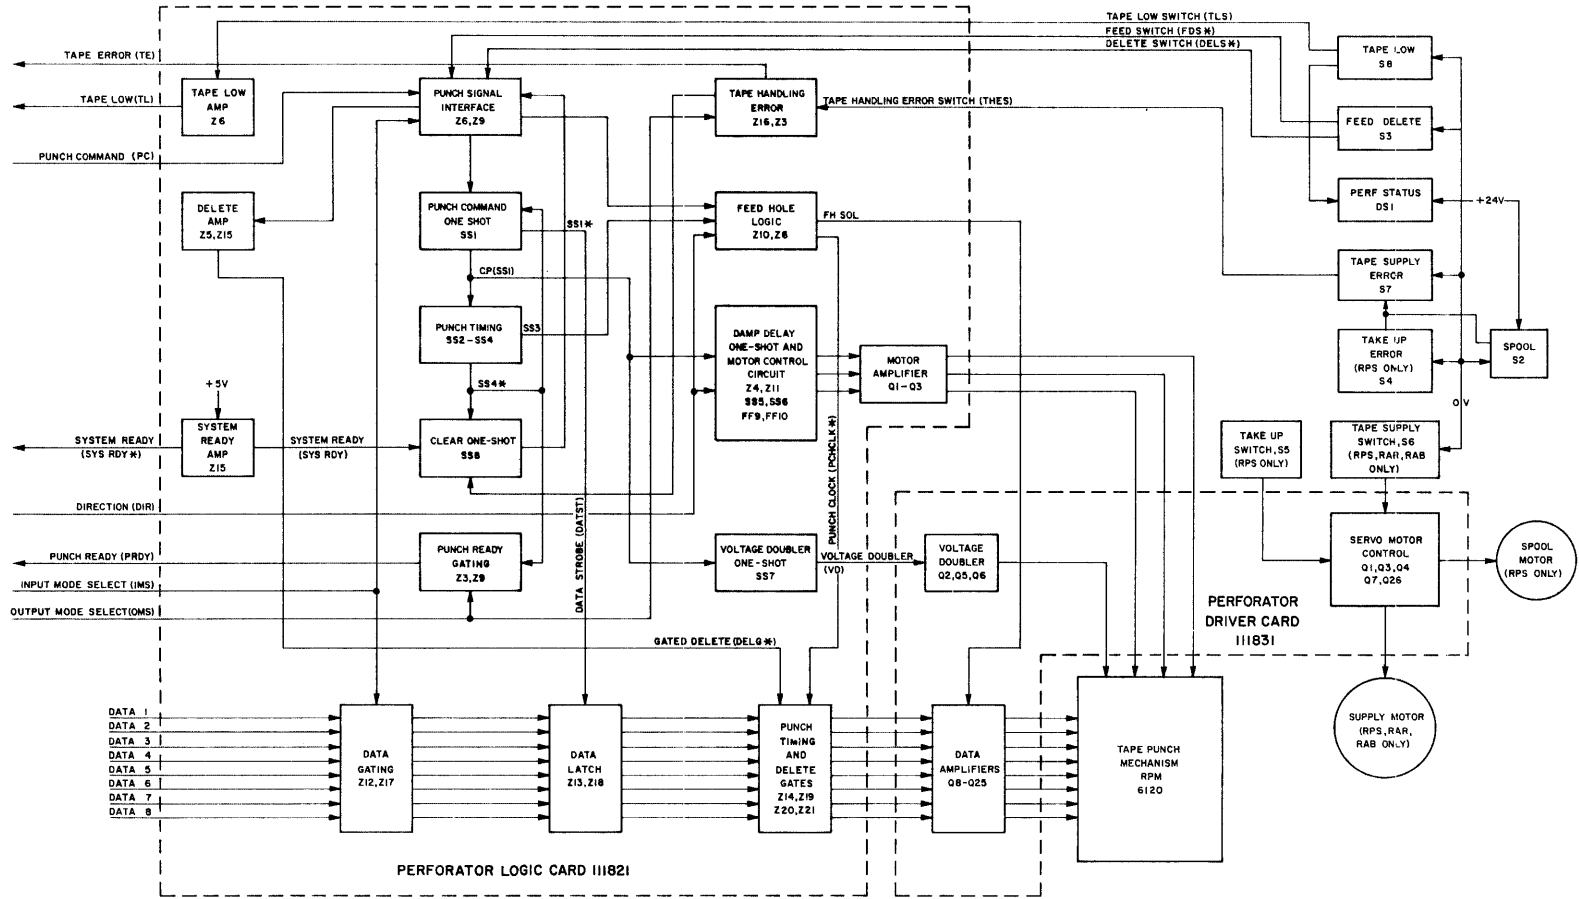

Figure 4-1. Block Diagram, Perforator Section
The REMEX tape reader/perforator system performs two basic functions: (1) controls the operation of the RPM 6120 punch mechanism in response to input control signals, and (2) reads small rolls (RAB and RAR units) or fanfolded (RAF units) tapes. Each function is described below in block diagram form and illustrated in Figures 4-1 and 4-2. See also the system schematics, Figures 8-1 through 8-3. Electronic descriptions are given in Section 4.2.
P.C. Card 111821 (schematic 111822) and 111831 (schematic 111832) are used to operate the punch mechanism by controlling (1) the logic and timing of the perforator and the direction of tape movement and (2) the data logic and solenoid driver amplifiers. Refer to Block Diagram, Figure 4-1.